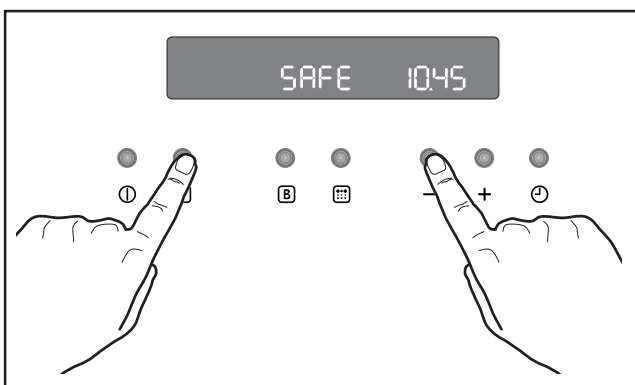

Fig. 15
2. Press buttons □ and “-” at the same time and keep them pressed for about 3 seconds. An acoustic signal will be emitted and the indication ‘SAFE’ will appear in the display (Fig. 15).